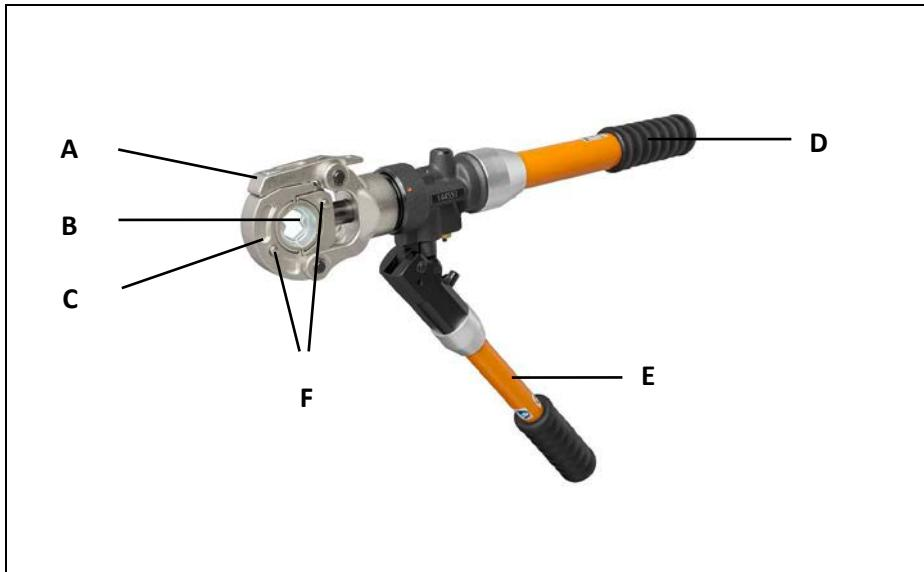

Figure 1 Components
- 2 Turn the grip (see Figure 1 on page 24) into the position for the pressure build-up (=>| |<=).
- 3 Some movements of the pump handle will fix the cable lug/connector (see Figure 1 on page 24).
- 6 In order to open the dies turn the pump handle (see Figure 1 on page 24) into the return position (<=| |=>). Therefore, the pump handle needs to be turned left bei 20°. In this position the pump handle is entirely closed. This process activates the oil reflux. Additionally, the piston moves in its start position.